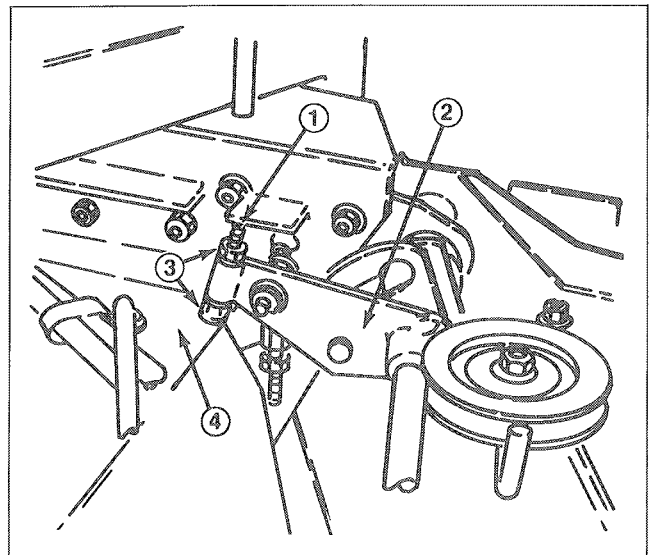

Figure 35
2. Pull up on mechanical door lift lever (Fig. 35). Hand tighten the wing stop bolt jam nuts so that there is no gap between the bolt head and the main deck surface.